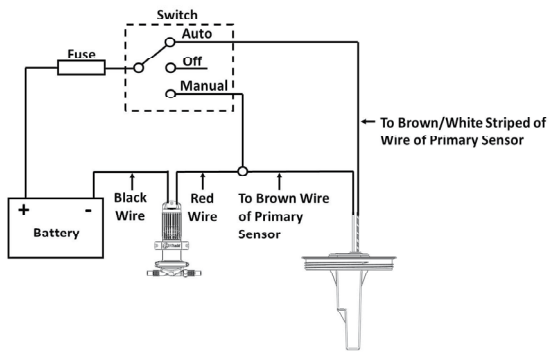
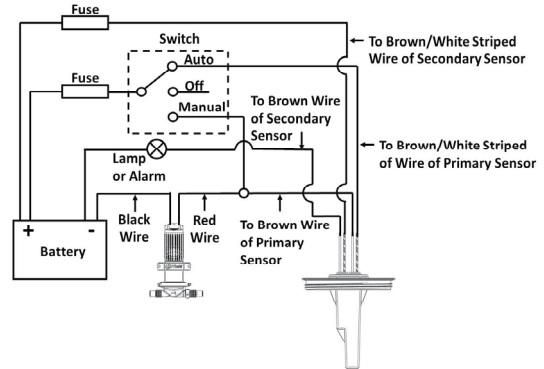

Figure 8A Wiring Diagram - for Single Sensor Models
Figure 8B Wiring Diagram - for Double Sensor Models
| Fig. 8A & B | Wiring Diagrams   |
- **WARNING:** Installation **must** be carried out by a qualified electrician. Improper wiring can cause a fire resulting in injury or death. Suggested wiring information (Figure 8A and Figure 8B) is given as a guide only, and wiring **must** comply in accordance with the applicable electrical standards. Appropriate size fuses or circuit breakers **must** be installed.
**Step 4: Wiring:** See Figure 8A or Figure 8B.
|                                       | Incorrect wiring               | Check wiring Figures 8A / 8B   |